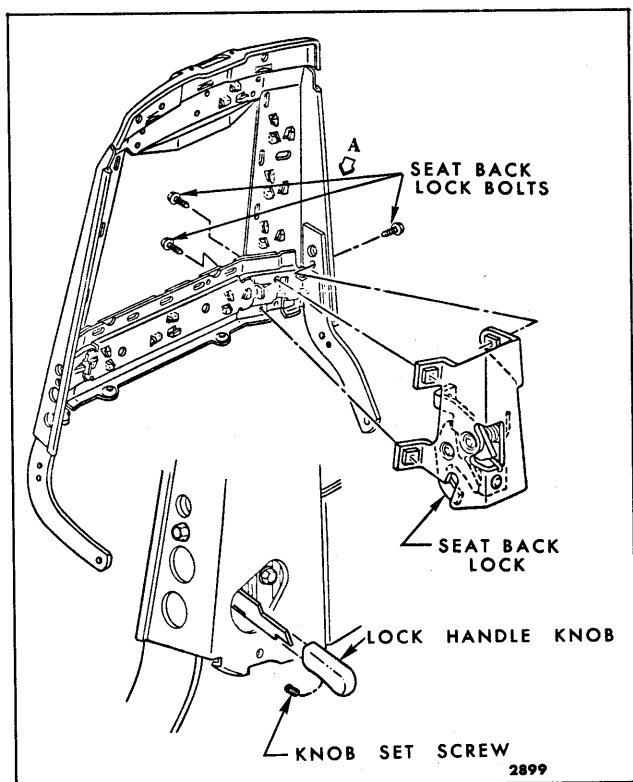

Fig. 15-32—Front Seat Back Lock - "F & Z"
2. Remove seat back lock handle knob (See Fig. 15-32).
3. Remove seat back panel and detach seat back trim outer side facing sufficiently to gain access to lock attaching bolts (Fig. 15-32).
4. Remove seat back lock attaching bolts (Fig. 15-32) and remove seat back lock from seat back.